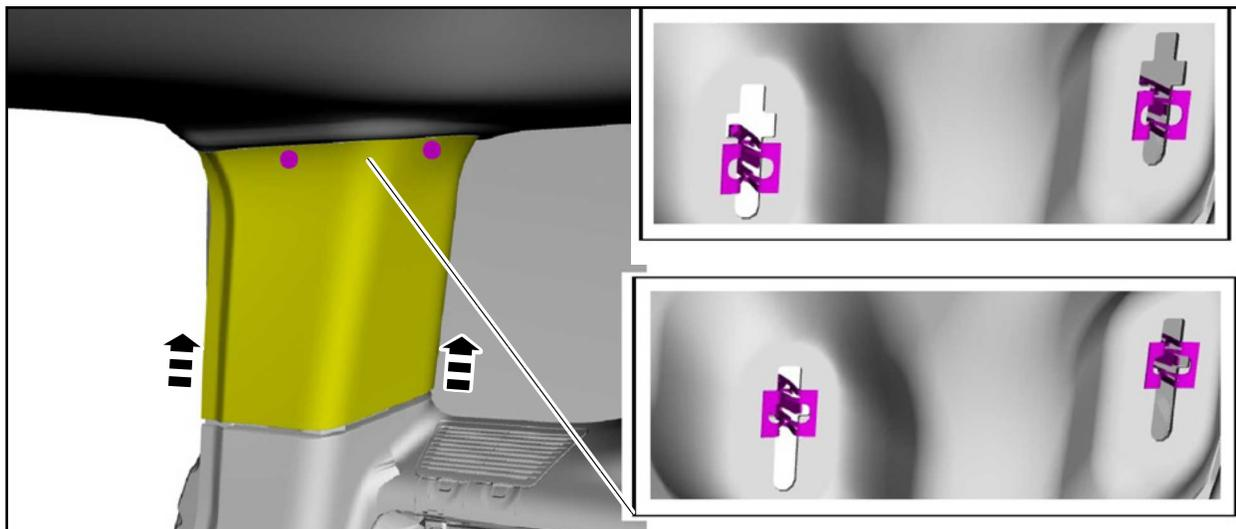

FIGURE 12
12. Slide the LH D-pillar trim panel up, aligning the clips to the slots in the sheet metal. See Figure 12.